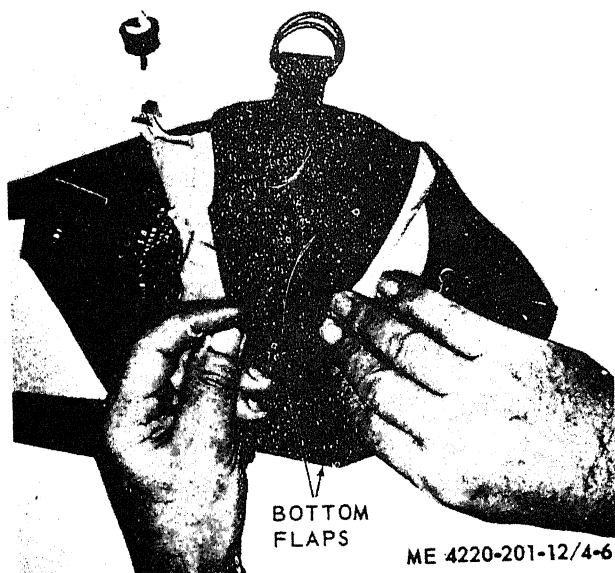
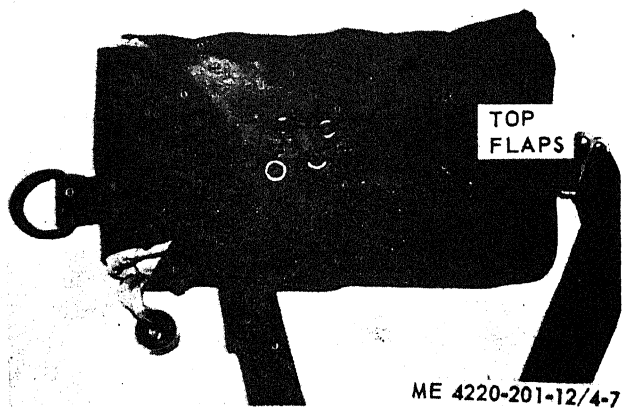

Figure 4-6. Securing container bottom flaps.
Figure 4-7. Securing container top flaps.
i. Close the container bottom (fig. 4-6) and top (fig. 4-7) flaps and tie with one turn of #3 cord cotton thread, using surgeon's knot and a locking knot.